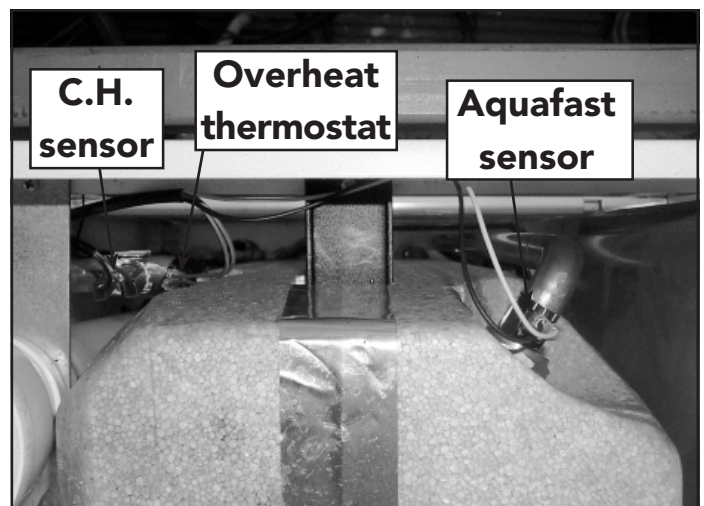

Fig. 28
- Identify the location of thermostat from fig. 28.